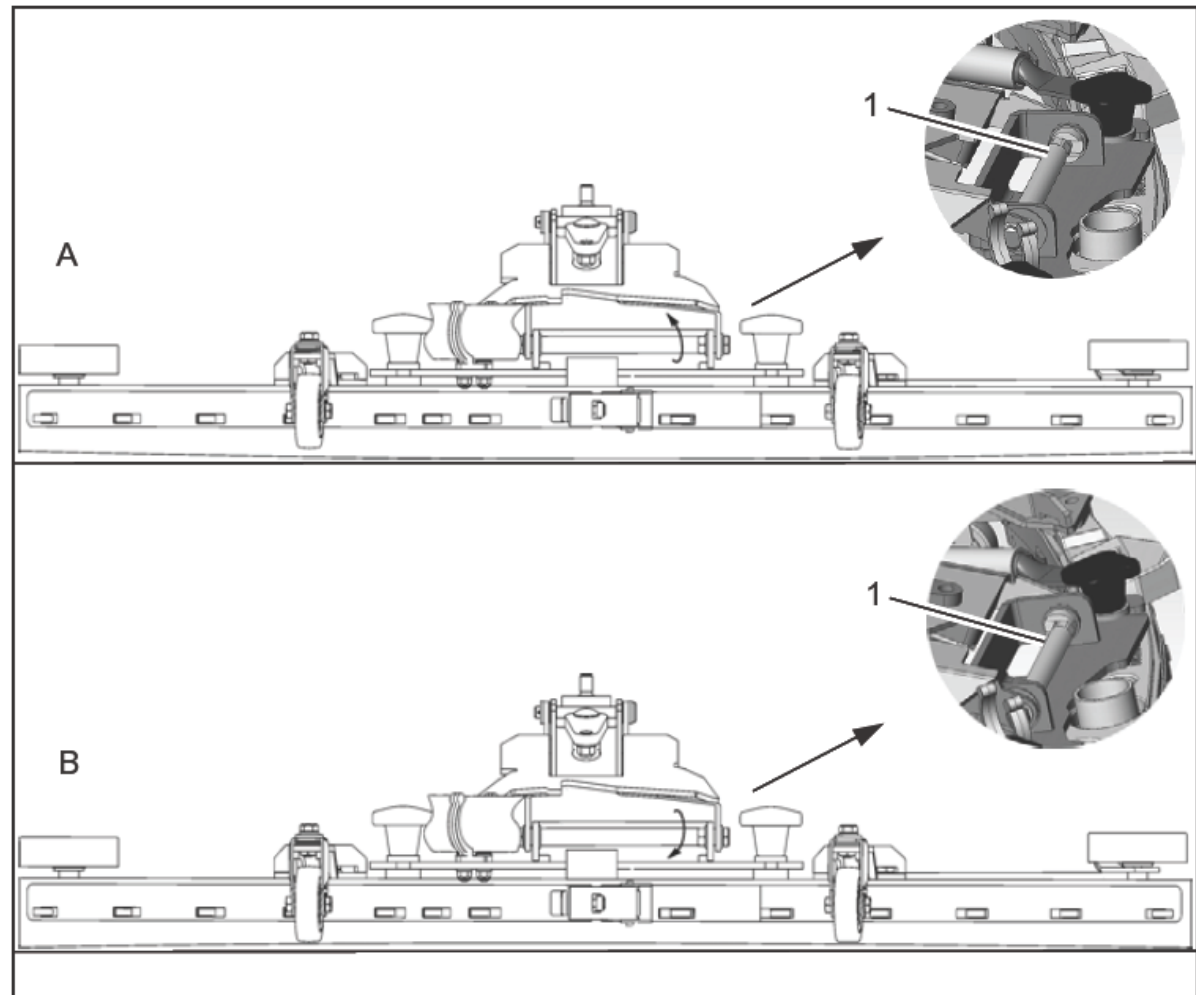

Fig. 12
2. Loosen the screws on the eccentric wheel (Fig. 12/1) and adjust the squeegee using the eccentric wheel (SW13) so that the ends of the sealing strips still have contact with the floor. Figure A: Turn the eccentric wheel in the front top position: The clearance between sealing strip and floor is reduced in the centre. Figure B: Turn the eccentric wheel in the behind top position: The clearance between sealing strip and floor is increased in the centre.